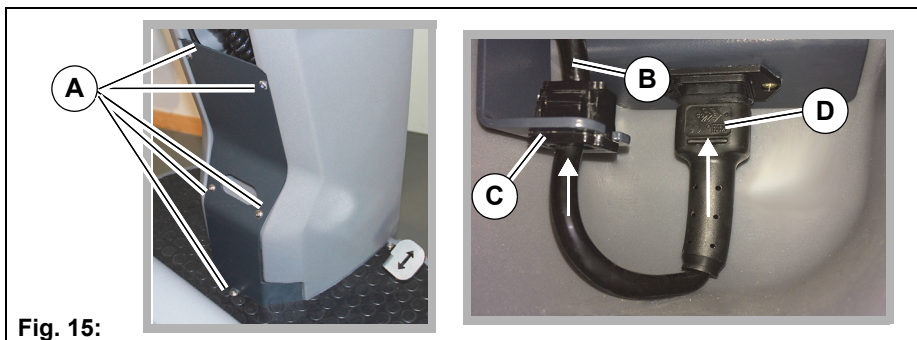

Fig. 15:
1. Loosen the bolts of the cover **Fig. 15-A** using the supplied socket wrench and remove the cover.
2. Route the cable of the mains plug **Fig. 15-B** through the opening in the bracket **Fig. 15-C**. Ensure that the side of the strain relief without a latch is facing the opening.
4. Plug the mains plug **Fig. 15-D** straight and firmly into the holder.